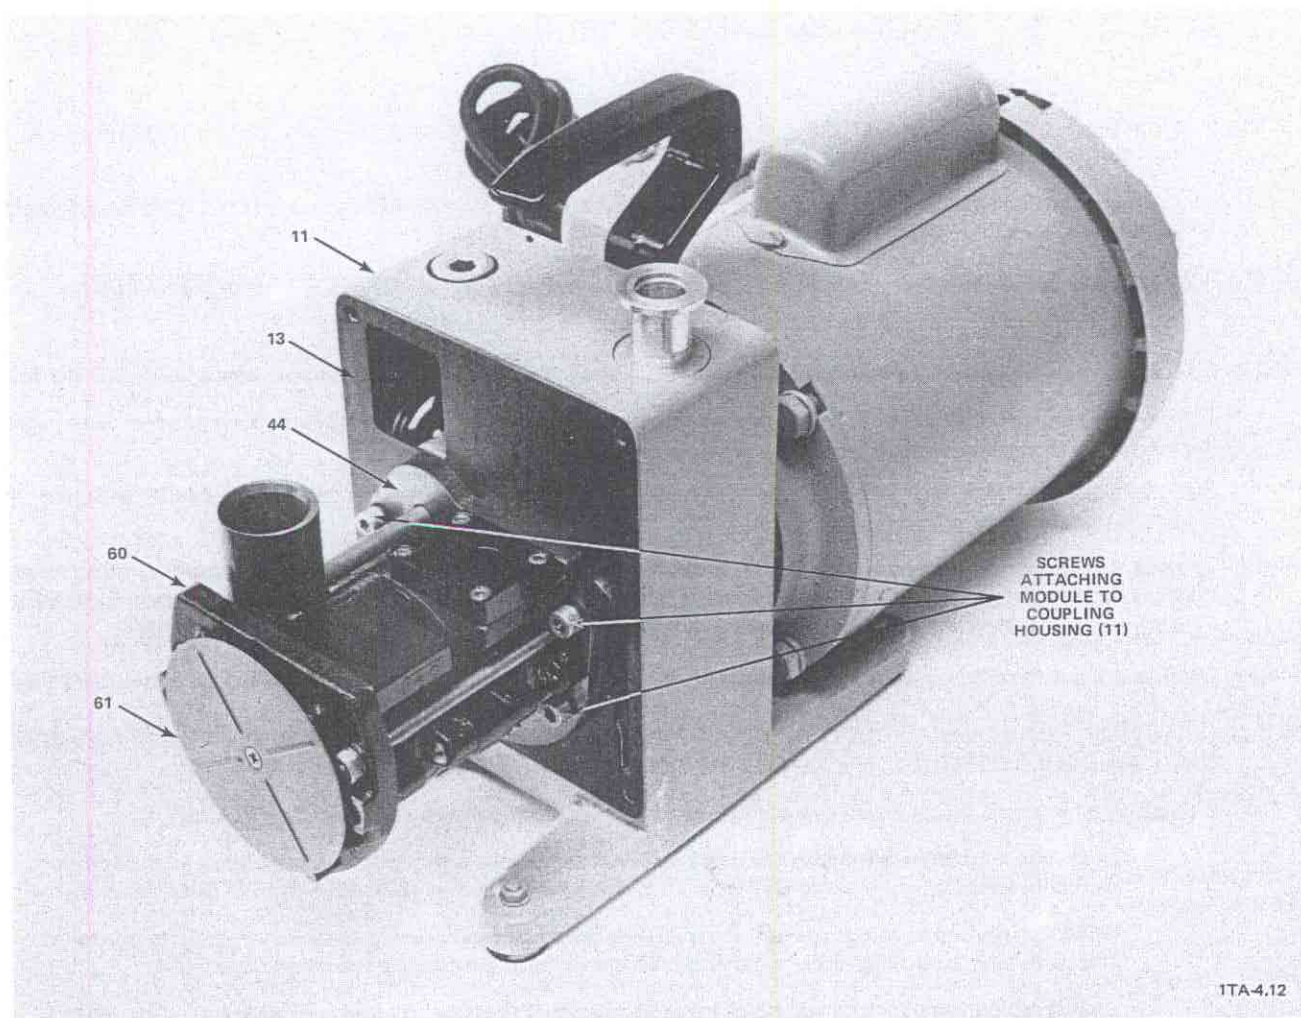

Figure 5-2. Module Attached to Coupling Housing (D2A Pump Model Shown)
- c. **NOTE:** If you plan to reuse the large flat seal (13) that fits between the oil casing and the coupling housing, carefully peel the seal (13) from the oil-casing flange before removing the oil casing (see Figure 5-2).
**NOTE:** If resistance is encountered, strike the front corner of the oil casing (12) with a rubber hammer to release the oil casing (12) from the coupling housing (11).
Using a phillips head screwdriver, remove the disk (61) from the shaft (see Figure 5-2).
- a. Unscrew and remove the lower screws and washers that attach the module to the coupling housing (11) (see Figure 5-2).
- c. Pull the module **straight back** and away from the coupling housing (11).
**B-10** Clean the large flat seal (13) from the coupling housing (11) and/or front end plate (44) (see Figure 5-2).